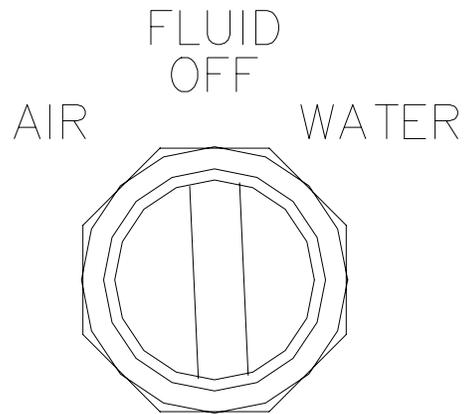

Figure 19: Fluid Selector Switch “Off” Position
12. Turn the fluid selector switch to the “Off” position as shown in Figure 19.